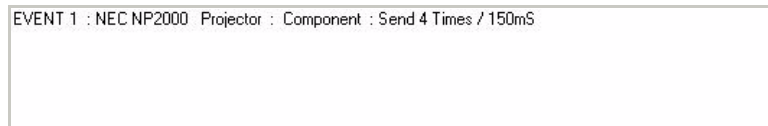

FIG. 60 Adding a RS232 Command to the Script
4. When the RS232 parameters have been set, click **Add to Script** to add this RS232 command to the script (FIG. 60).